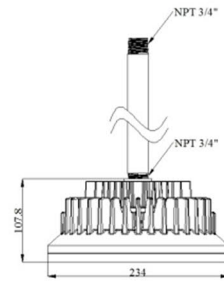

Figure 9
- ☞ Tighten tube locking set screw to conduit, 1.0 N-m. (Figure 9)